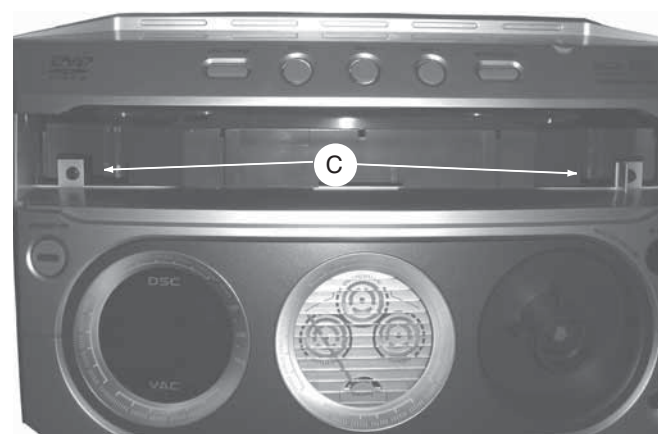

Figure 5
- 4) Loosen the 2 screws at front of DVD loader as Figure 5.